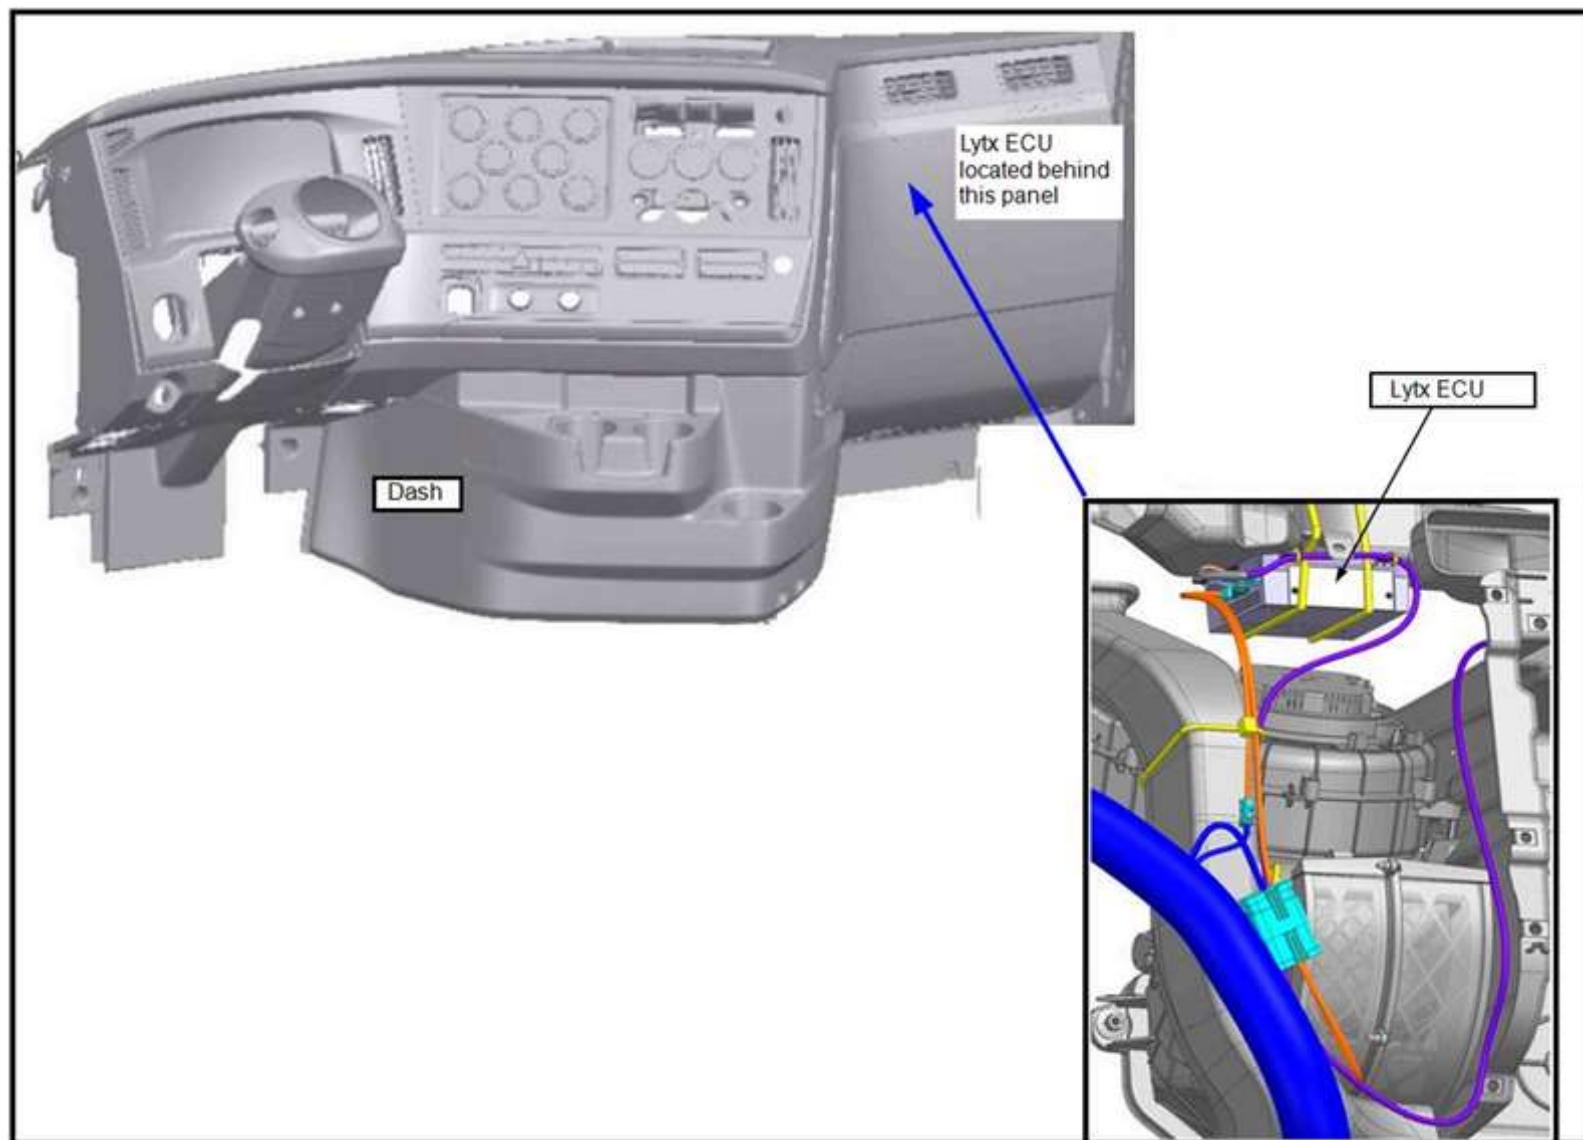

Figure 3
Lytx pushed out an "Over The Air" update to all of the SF500 ECUs that completed by July 12th 2024 changing the function of the LED located on the Lytx ECU. The location of the LED on the Lytx ECU can be seen in Figure 1. Make sure to have the ignition switch on when checking the LED, reference Figure 3 for location of Lytx ECU.
1. Access the Lytx SF500 ECU by removing the panel on the dash. Cut all existing tie straps for both the Lytx ECU mounting along with the Lytx SF500 ECU and Camera module cable (pictured in purple) in figure 3. Remove all connections to the SF500 ECU. This will allow for the ECU to be remounted properly, while providing additional slack in the camera module cable allowing for the proper installation.